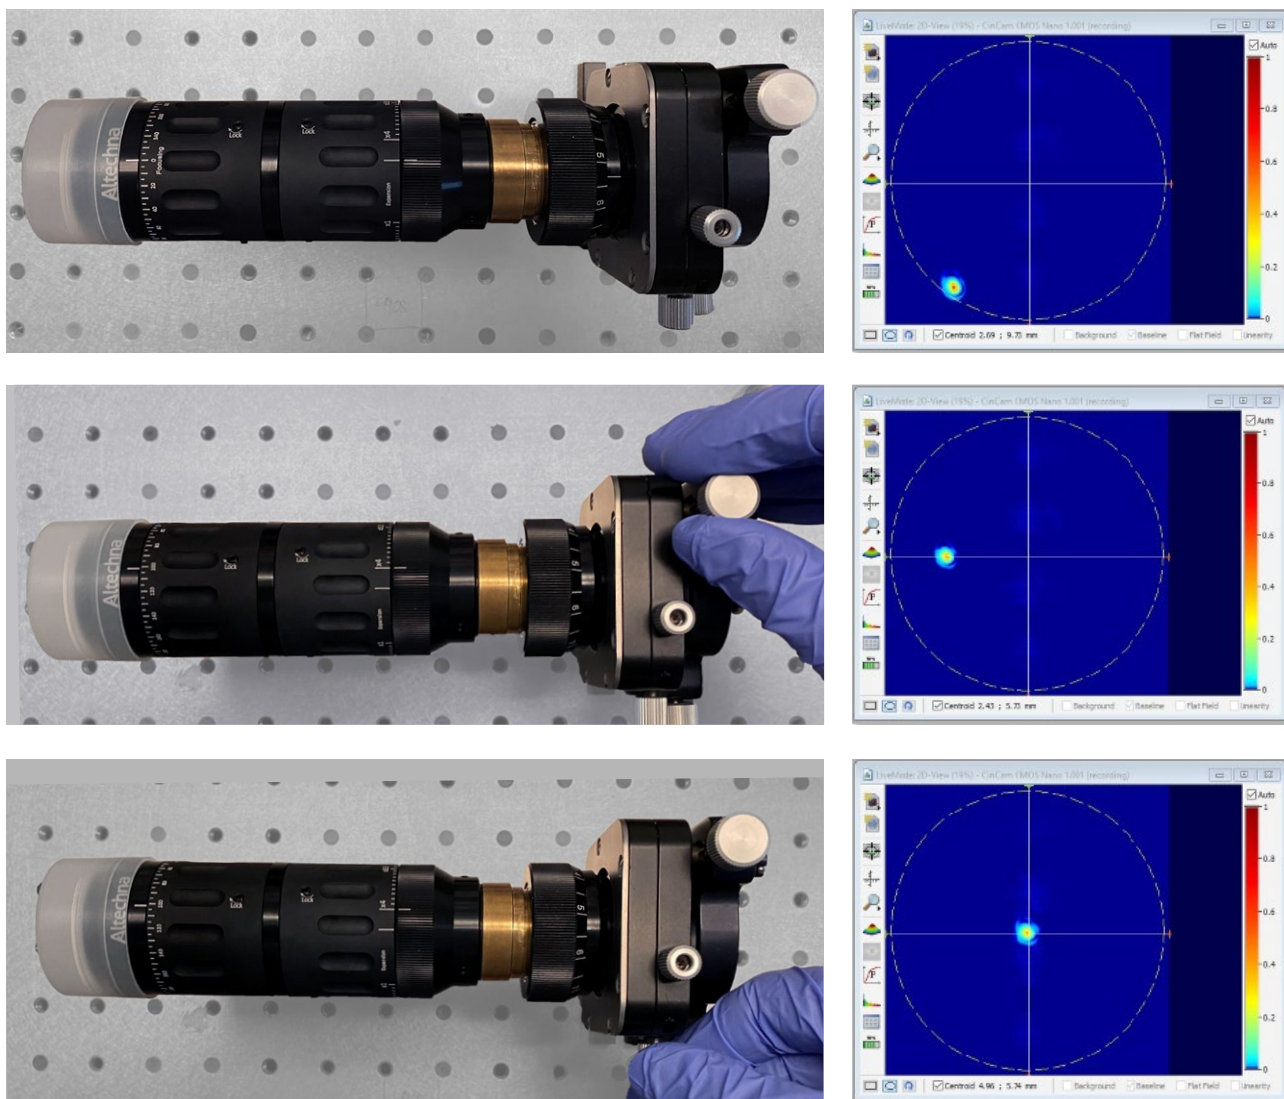

Figure 15. Centering laser beam spot.
6. After VBE placement into optical beam path laser beam will be decentered on the screen. By adjusting tilt (θ_x ; θ_y) get the laser beam spot back to the center of the camera where crosshair was placed for reference (fig. 15):